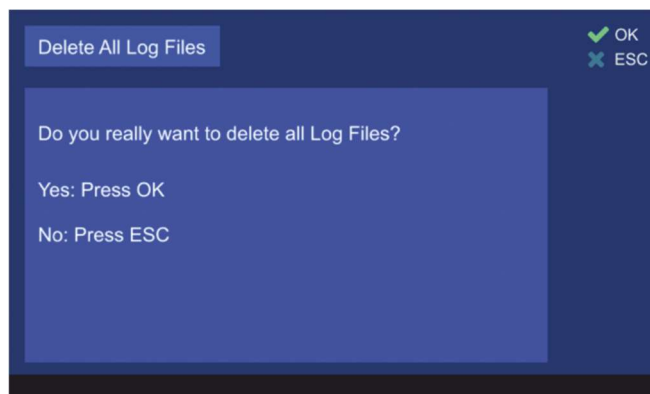

Figure 176. Confirming of deleting of all log files
- Pressing the hotkey “Delete All” will open the prompt dialog for deleting of all log files (s. Figure 176). Pressing “OK” will delete all log files. Pressing “ESC” will close the dialog without deleting the log files.